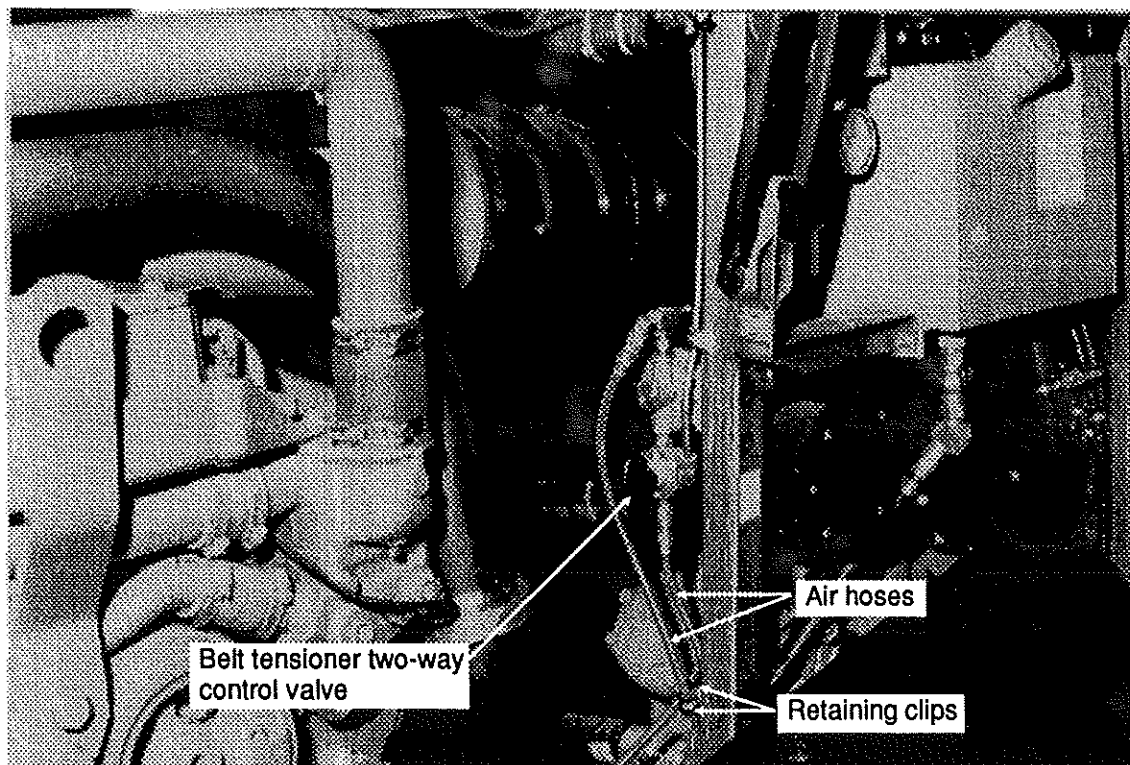

Fig. 11
5. Locate the belt tensioner two-way control valve (see fig. 11), turn handle counterclockwise in order to reverse pressure in belt tensioner air cylinders, thus releasing tension on belts, then slip the belts off.
7. Disconnect belt tensioner cylinder steel-braided air hoses from two-way control valve, then remove their retaining clips from vertical post in order to free the hoses (see fig. 11).